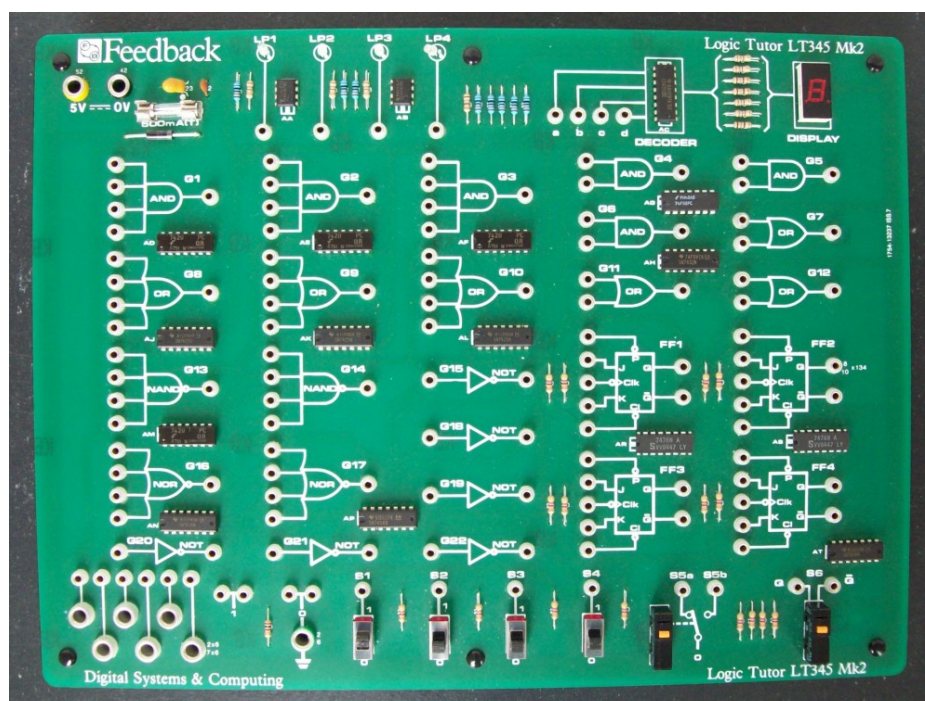
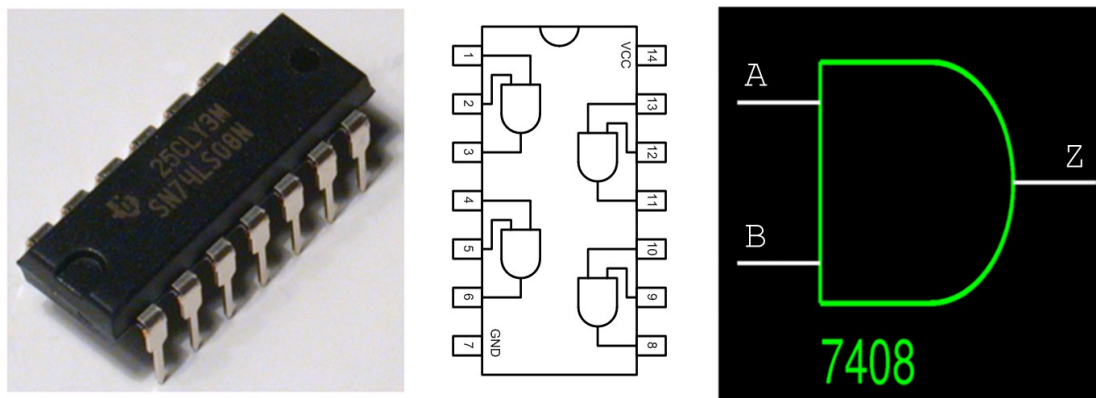

Figure 1: Feedback Logic Tutor
Figure 2: 7408 AND gate IC, 14 pin package and symbol
The aim of this lab is to demonstrate the operation of basic logic gates, their functions and how they can be combined to implement different functions i.e. the fundamental building blocks of any computer. These circuits will be constructed on the Feedback Logic Tutor LT345, as shown in figure 1 (located on the shelf under your desk). Contained on this board are a number of Transistor – Transistor logic (TTL) integrated circuits (IC), implementing a range of logical functions e.g. AND gates as shown in figure 2. Each IC is soldered into the printed circuit board (PCB), its inputs and outputs externalised using PCB mounted sockets.